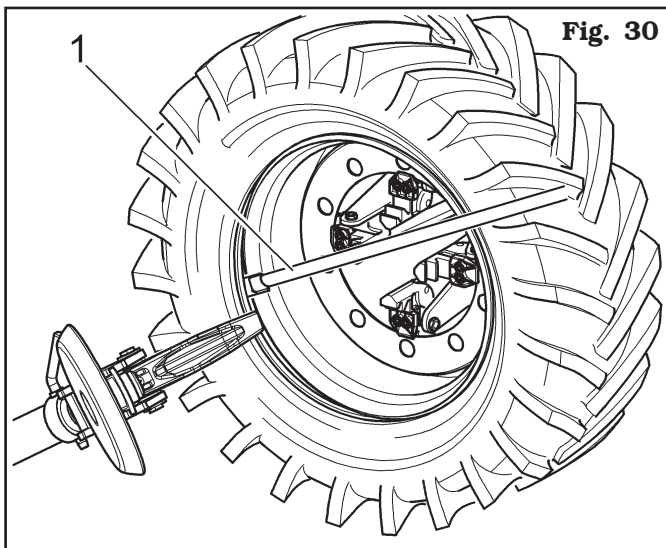

Fig. 30
- Insert lever (**Fig. 30 ref. 1**) between the rim and the bead on the right-hand side of the tool.